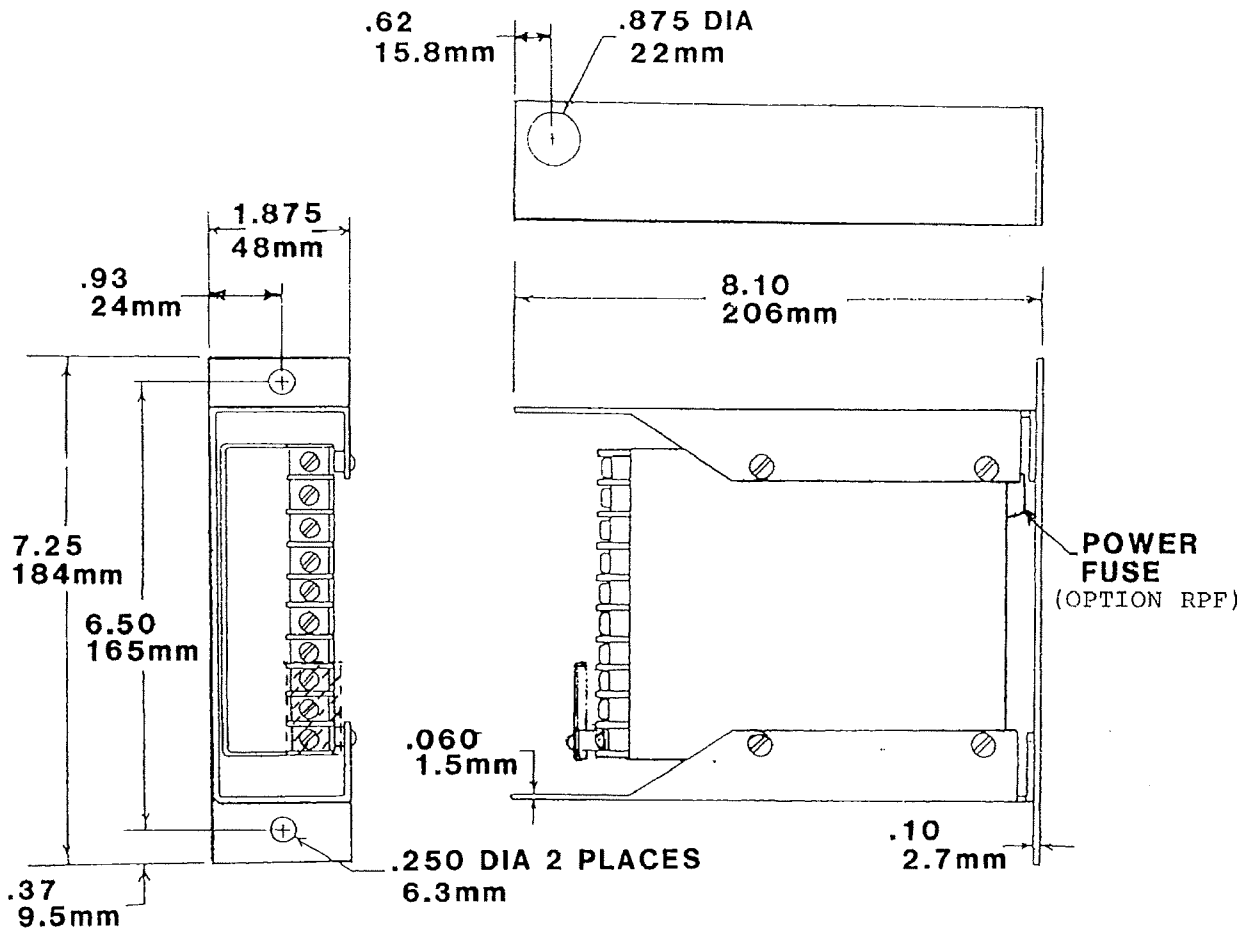

Figure 3-2
- 3.2 The mounting bushings for the 18-119 High-Level Isolated Transmitters are spaced according to Devar Inc., module mounting standards. This permits the use of available hardware for installation with Devar Inc. modules and multichannel rack cabinets. It can also be wall mounted by M31 bracket assembly. (See Figure 3-2.)